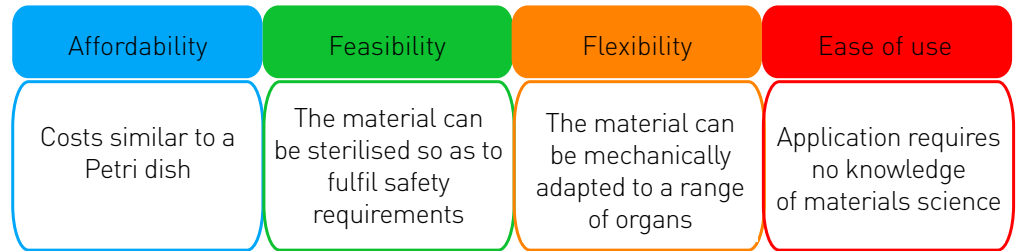

Fig. 4 Characteristics required to develop the next generation of synthetic extracellular matrices
in both material science and cell biology. In order to compete with the user-friendly TCP 2D model, one has to provide innovative solutions offering a universal platform that can be used by any cell biologist without prior knowledge of material science. To fulfill this user need, we have developed an innovative synECM platform that overcomes the limitations of current 3D models by offering characteristics such as: (1) affordability, (2) translatability, (3) versatility and (4) ease of use, Figure 4.